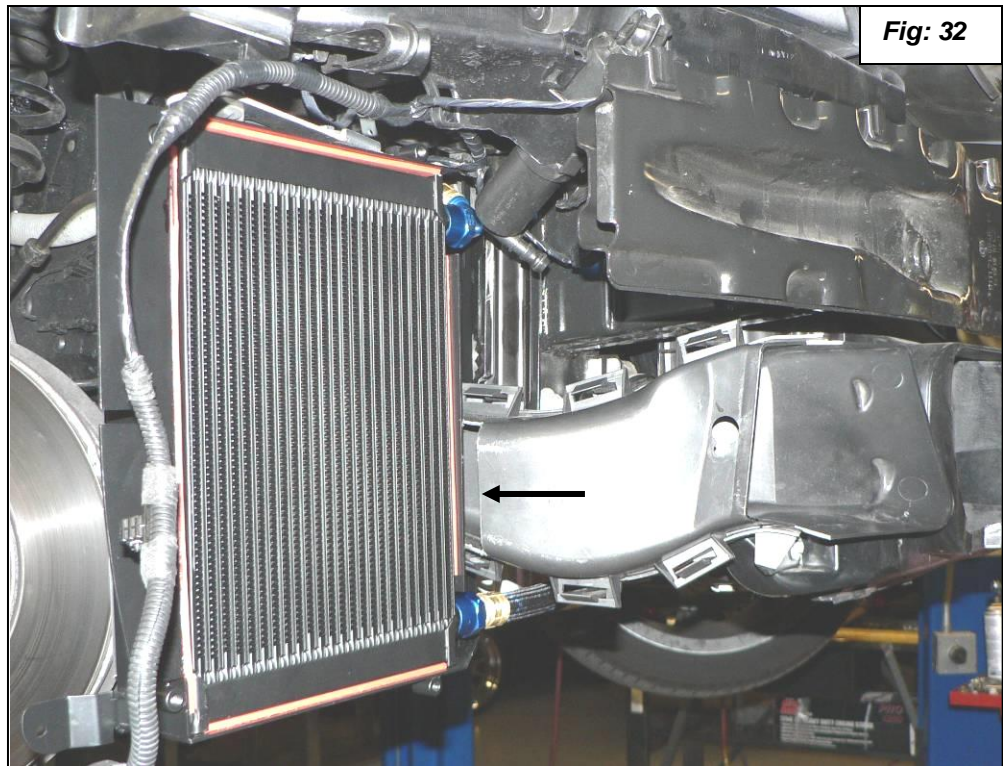

Fig: 32
40. Install the modified brake duct and check for clearance. With the oil cooler in a relaxed position you should have about $\frac{1}{2}$ " clearance as shown in figure 32.